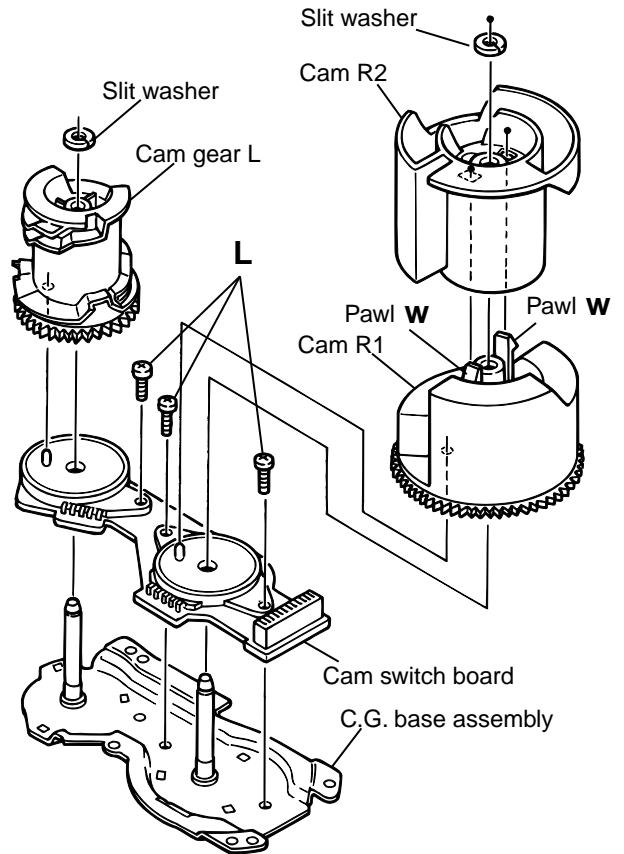

Fig.22
**[Note]** When the chassis assembly is turned over under the conditions wherein the gear bracket and belt have been removed, then the pulley gear as well as the gear, etc. constituting the gear unit can possibly be separated to pieces. In such a case, assemble these parts by referring to the assembly and configuration diagram in Fig. 22.
## ■ Removing the cams R1/R2 assembly and cam gear q(See Fig.22)
## ■ Removing the C.G. base assembly (See Fig.22 and 23)